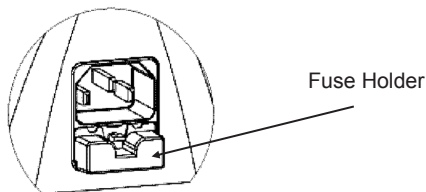

Figure 2.
1. Using your finger release the fuse holder on the power outlet by pushing downward on the tab and pulling outward. Place the fuse holder aside. See Figure 2.